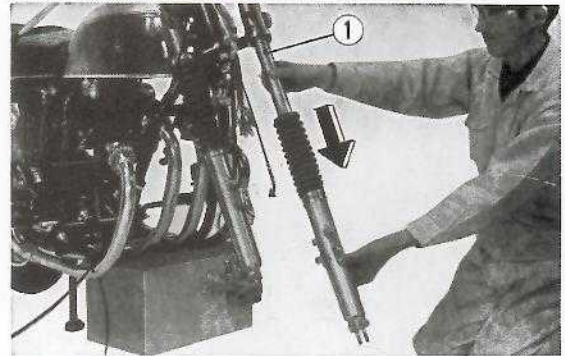

Fig. 11-12 ① Front fork
3. Loosen the 8×56 mm front fork pipe mounting bolts (located on the fork top brige) and the 10×40 mm front fork pipe mounting bolts (located on the steering stem). Pull the front fork gentle out the bottom. (Fig. 11-12)